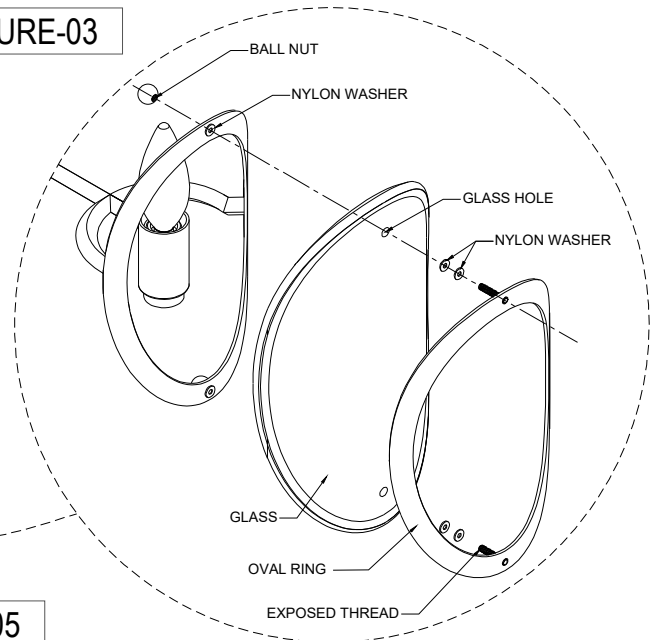

FIGURE-05
10. Install the glass on each arm of the fixture by inserting the exposed thread of the oval ring through the glass and unto the fixture, and secure it with ball nuts. NOTICE: Nylon washer must be used between each sides of the glass holes as seen in the figure. (SEE FIGURE-05)